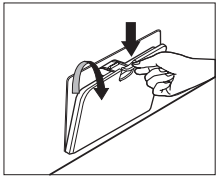

Fig. 12
- Open the service flap, (bottom right corner) (Fig. 12)